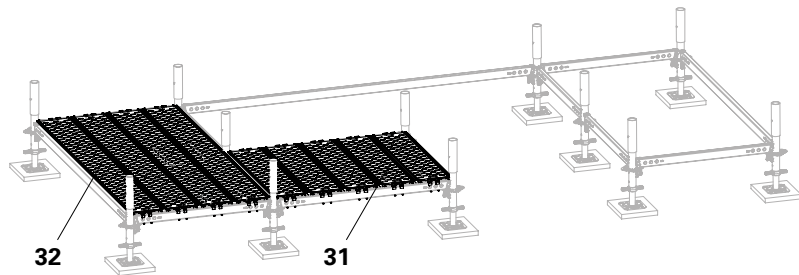

Fig. A8.02
3. Fit 4 x Steel Decks UDG-2 200 (**32**) and 5 x UDG-2 100 (**31**). (Fig. A8.02)